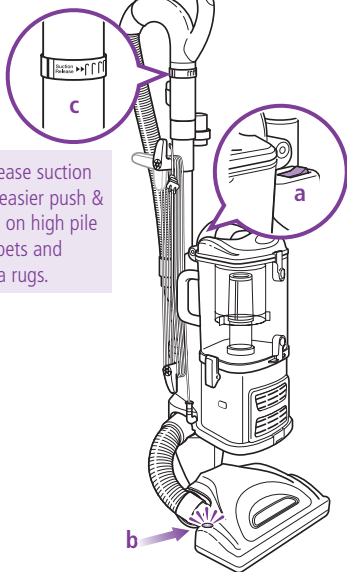

Fig. 11
- 3 Press the On/Off switch (a) to the "I" position to vacuum bare floors (straight suction only) or to the "II" position to engage the motorized floor brush (for vacuuming carpets and rugs). (Fig. 11)
**IMPORTANT:** The motorized brush indicator light (b) will illuminate green when motorized floor brush is on, or red if there is a blockage or jam. (Fig. 11) This feature is designed to protect your Lifetime Belt that powers your motorized floor brush. See Checking for Blockages on page 15.
- 5 **Due to the huge suction power of this vacuum, it may become necessary at times to adjust the suction release on the handle. (Fig. 11) If the vacuum seems difficult to push or pull or if it is lifting up area rugs, adjust the suction release by rotating the collar 90° counterclockwise to open the valve. Rotate the collar clockwise to close the valve when you need high suction and for vacuuming floors.**